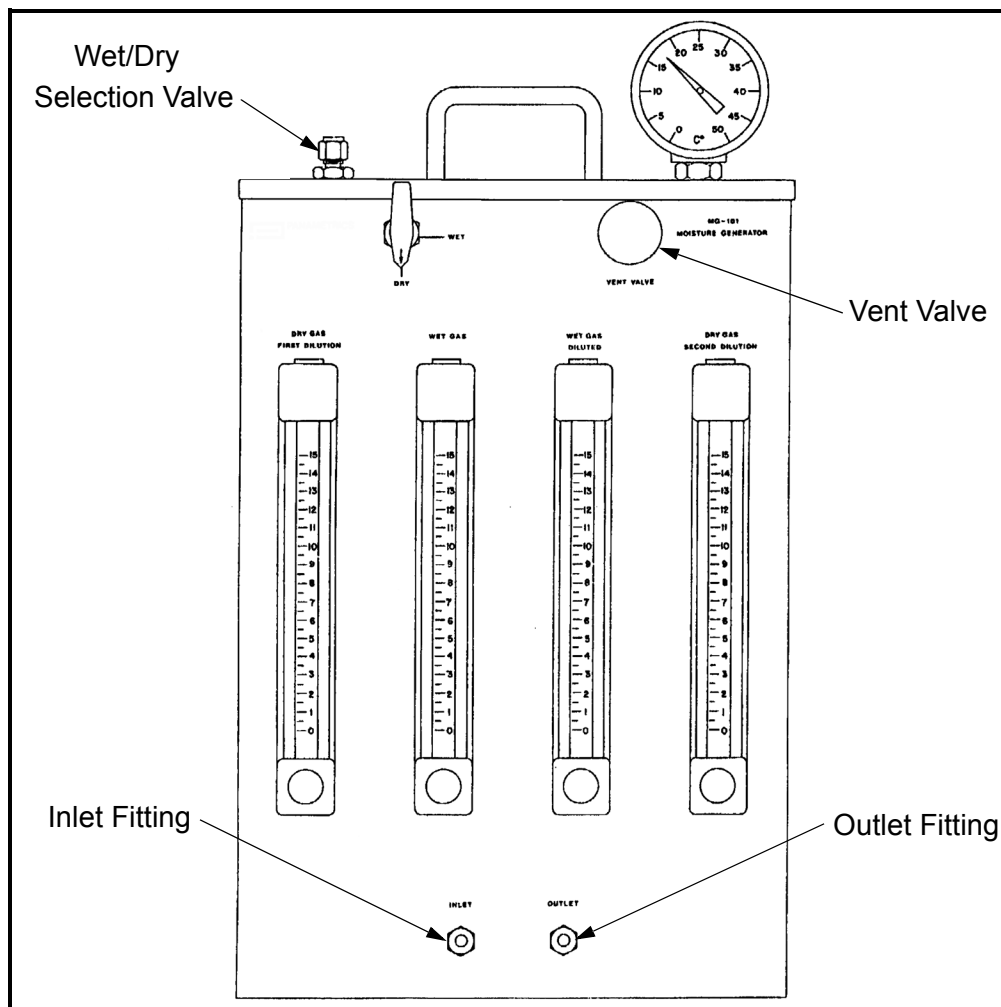

Figure 3: MG-101 Front Panel
4. *Fully* open the vent valve on the front panel by turning it counter-clockwise, and turn the **WET/DRY SELECTOR VALVE** to **WET** (see *Figure 3* below).